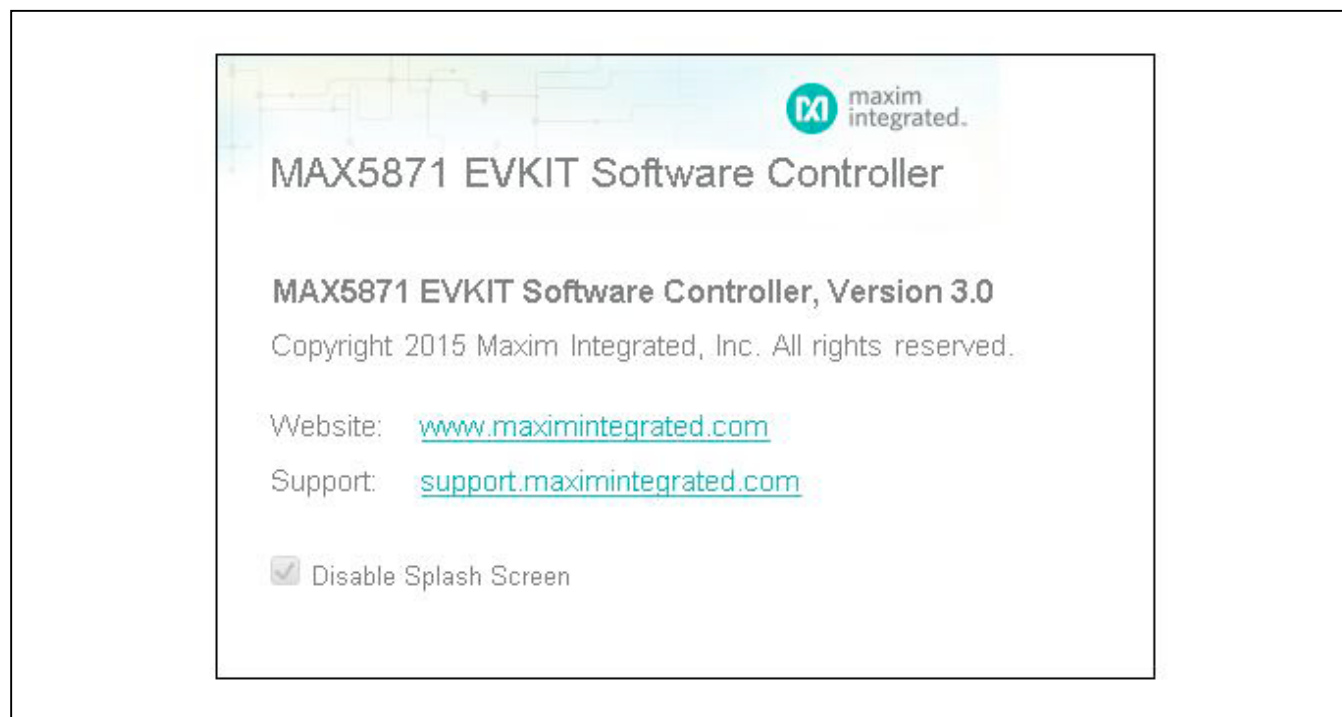
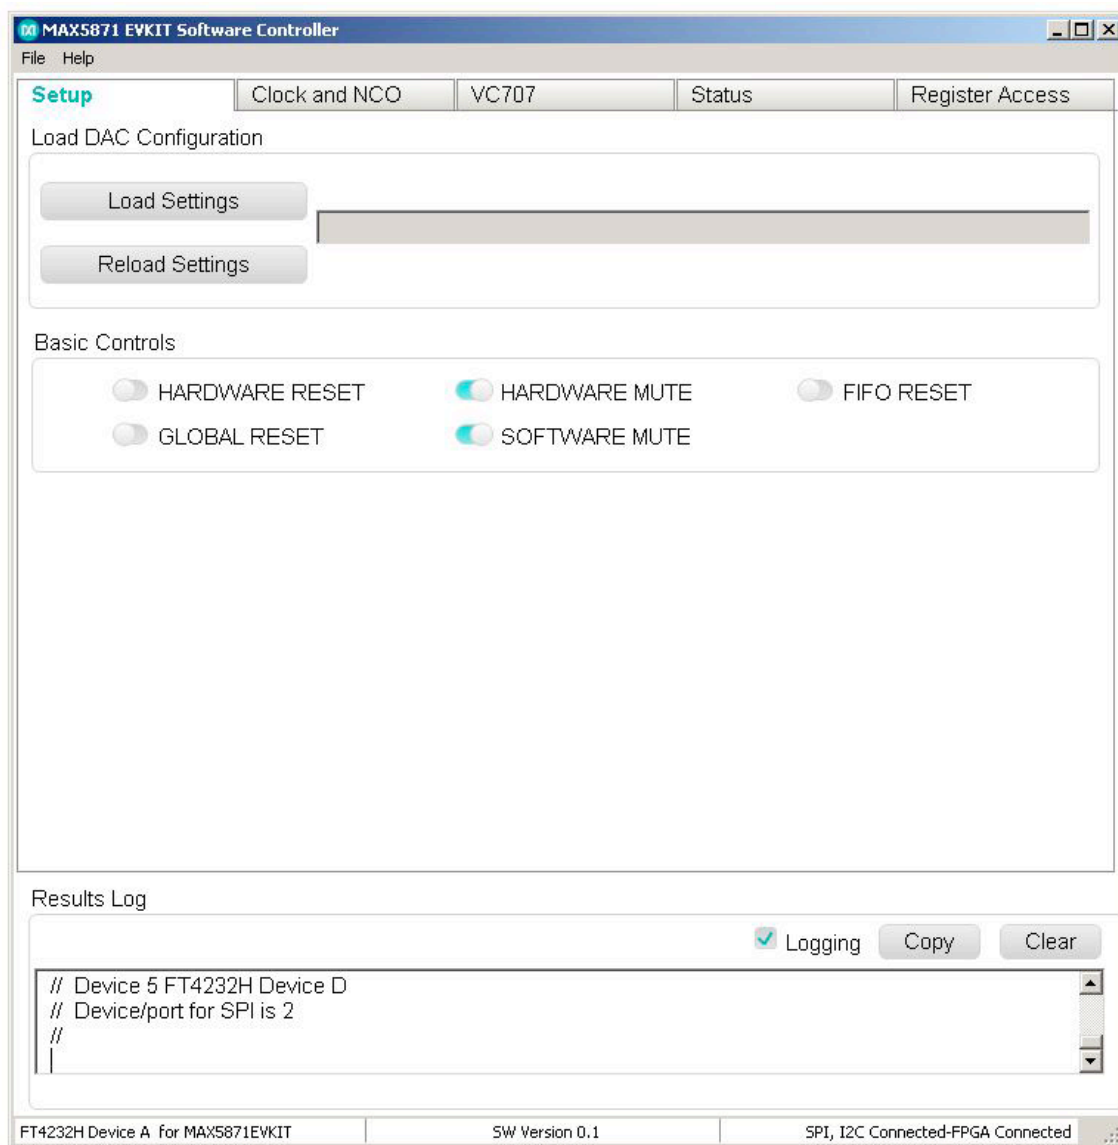

Figure 4. Splash Screen
Figure 5. Main GUI Startup
- a. Verify that the lower-left corner of the app states either “Connected” or “FT4232H Device A for MAX5871EVKIT”; Indicates the GUI is connected to the MAX5871 EV kit. (Figure 5)
- b. Verify lower-right corner of the app states “SPI, I2C connected-FPGA Connected” indicating these specific ports have been established. (Figure 5)
The EV kit software controller GUI application displays a splash screen on initial startup, as shown in Figure 4. The splash screen is only visible while the application connects to the EV Kit USB interface and the UART on the VC707. The main application is displayed after these connections are made, as shown in Figure 5. Note that the EV kit connection status is reported in the lower left corner of the GUI. The lower-right corner reports the SPI and I²C/SMBus along with the FPGA connections.
The Setup tab (Figure 5) allows the user to load a MAX5871 device configuration file. The configuration contains a specific sequence of SPI register writes required for proper operation of the desired operating mode. Several sample configuration files are included with the software installation and are stored in the